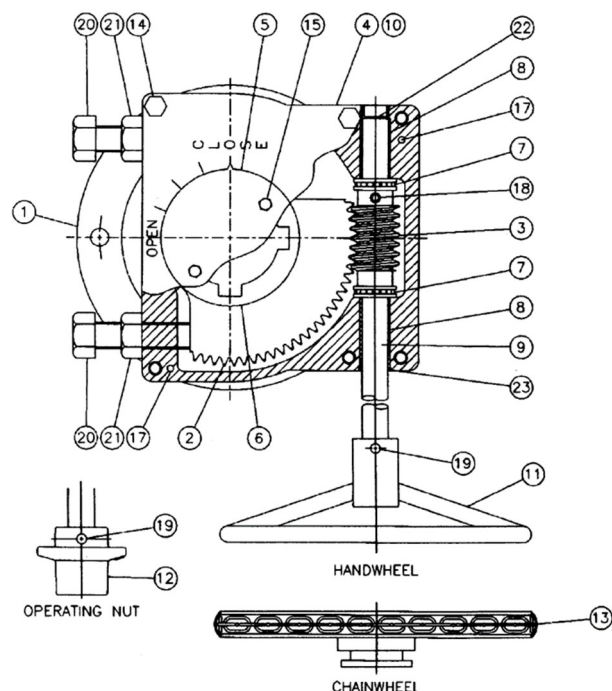

FIGURE 14. GEAR ACTUATOR CONSTRUCTION
GEAR ACTUATOR MAINTENANCE: A typical gear actuator is shown in Figure 14 and consists of a worm (3) mounted on an input shaft (9). The worm engages a worm wheel (2). When the worm is turned, it drives the wheel through 90° of rotation. The rotation of the valve plug is displayed by the top indicator (5). The open and closed positions of the segment gear are controlled by an end position stop bolts (20). The stops can be adjusted by loosening the lock nut (21) and rotating the bolts. The gears are lubricated with EP2 grease in a cast iron housing (1). Other parts are listed in Table 5.